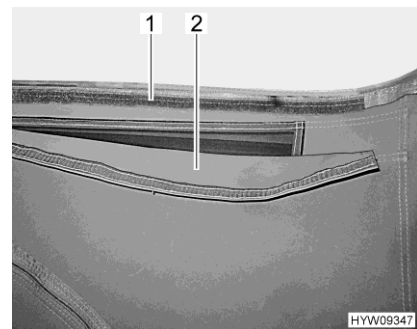

Fig. 53 Ventilation (open)
- Pull the fabric flap (Fig. 53,2) upwards and press down the Velcro strap (Fig. 53,1).